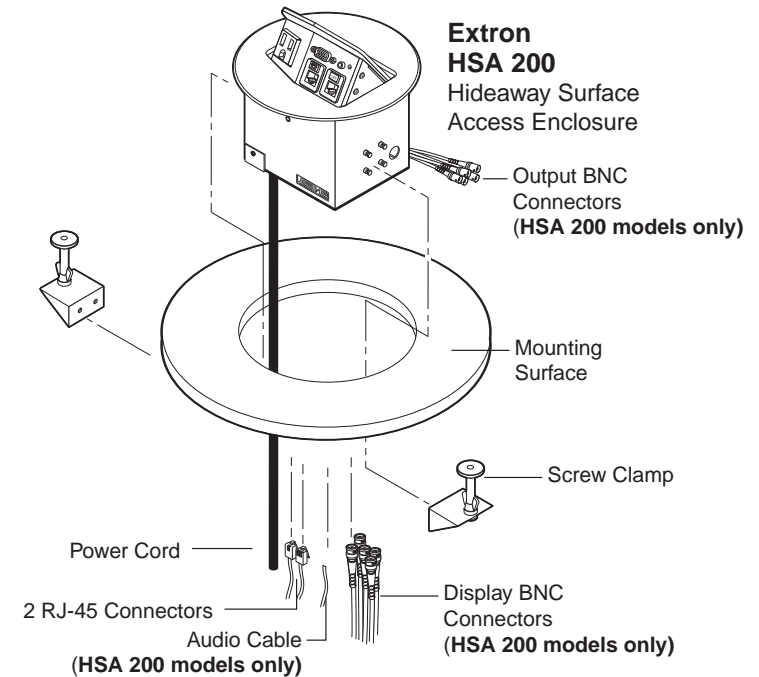

Figure 2-4 — Mounting the HSA 200 or HSA 222 enclosure
4. From the underside of the table, reinstall the screw clamps on the enclosure at a height at which the clamp will reach the underside of the tabletop (figure 2-4).
NOTE Figure 2-4 shows an HSA 200 installation. Except for the video and audio connectors, the HSA 222 installation is identical.